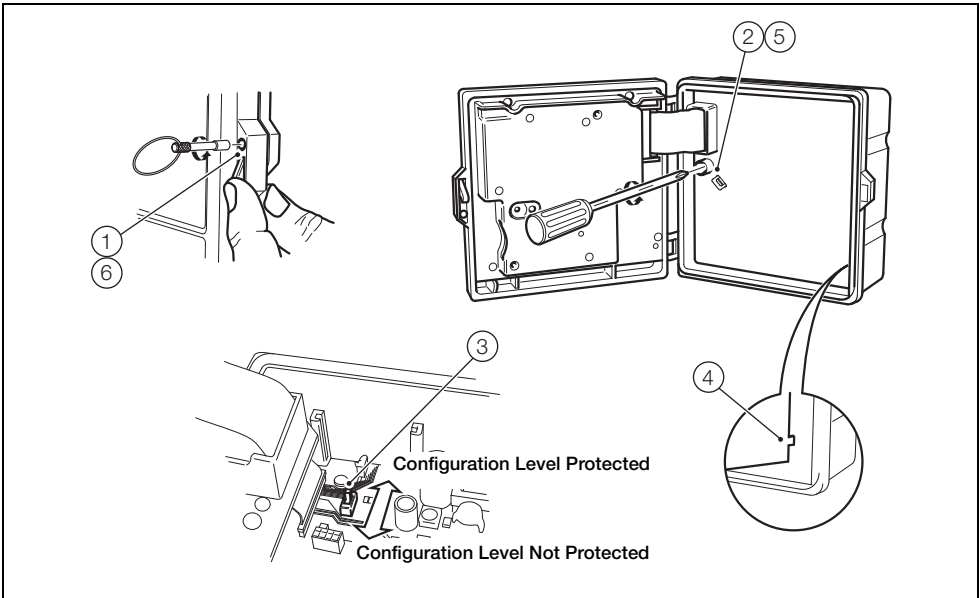

Fig. 7.3 Setting the Security Switch
The Configuration level cannot be accessed until the internal switch set to the 'Configuration Level Not Protected' position – see Fig. 7.3, page 68.
Internal Security Switch Setting (see Fig. 7.3)	'Configuration security' Parameter Setting
- 1. Set the internal security switch to the 'Configuration Level Not Protected' position – see Fig. 7.3, page 68.
Referring to Fig. 7.3, set the internal security switch as follows: